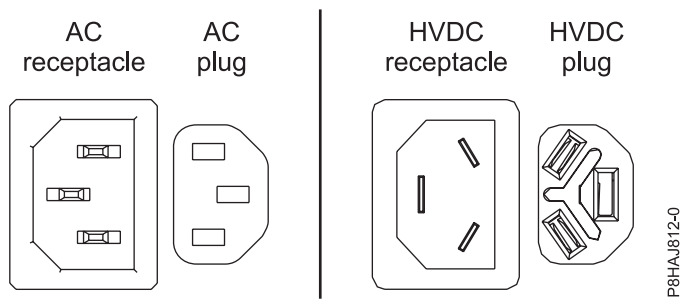
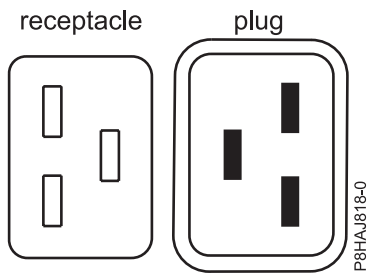
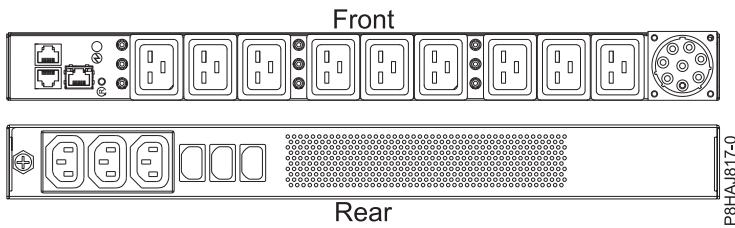

Figure 16. AC and HVDC connectors
Figure 17. Connectors for the 8408-44E system
Figure 18. PDU for the 8408-44E system
Figure 16 shows the supported alternate current (AC) and high voltage direct current (HVDC) connectors. Figure 17 and Figure 18 show the supported connectors and power distribution unit (PDU) for 8408-44E.